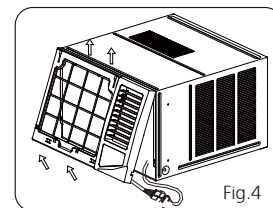

Fig.4
2. Disconnect the coupler plugs and make sure not to interfere with the temperature sensor cable. Hold the left bottom side of the frame, lift it up to unlatch the lower side, remove it towards you (See Fig. 4)